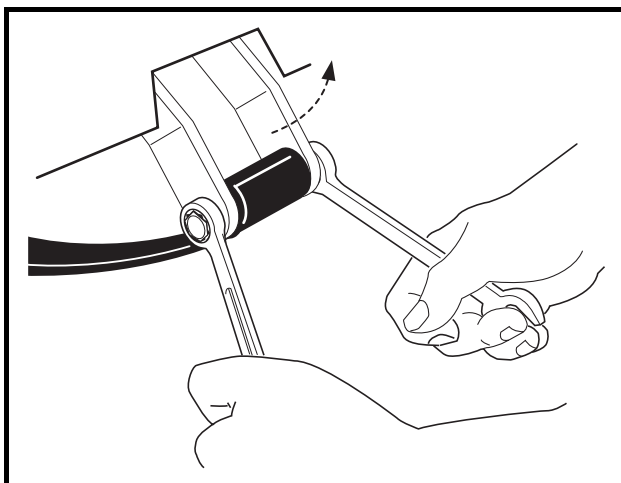

Figure 19-22 Rear Shackles
8. Raise vehicle just enough to relieve tension from leaf springs, then remove the bolts securing the leaf springs to the shackles (**Figure 19-22, Page 19-10**).